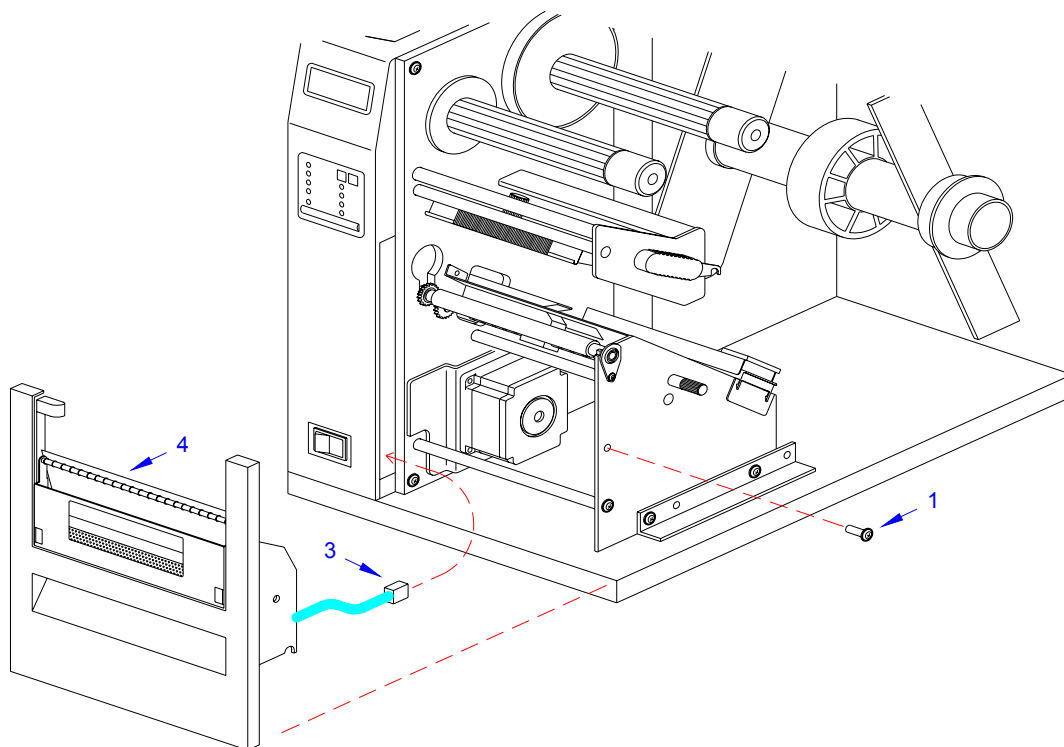

Figure 4-2b, Dispenser Installation
- 6 Insert dispenser (4, Figure 4-2b) in place of removed front cover (2) and secure using screw (1).